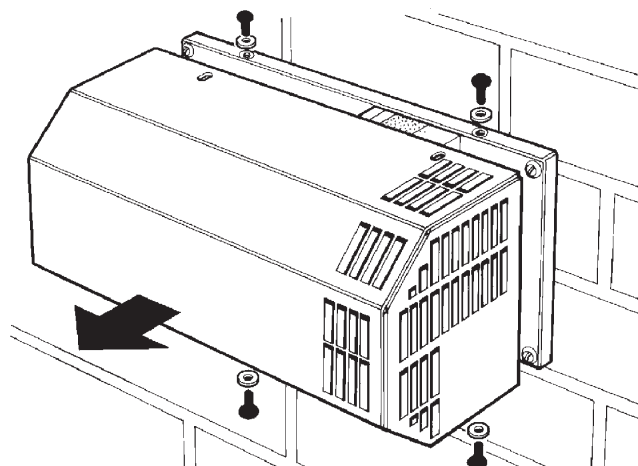

Fig. 15
2. The terminal cover is secured using 4 screws. Unscrew the 4 screws and remove cover. (See Fig. 15).